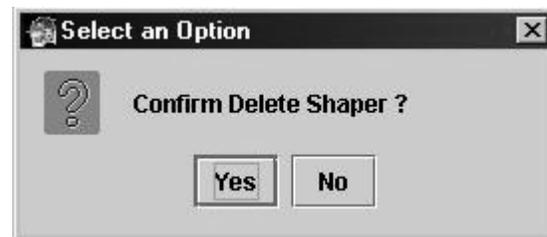

Figure 6-21: Confirm Delete Shaper Dialog
2. Click **DELETE**. The Select an Option dialog displays. See Figure 6-21.